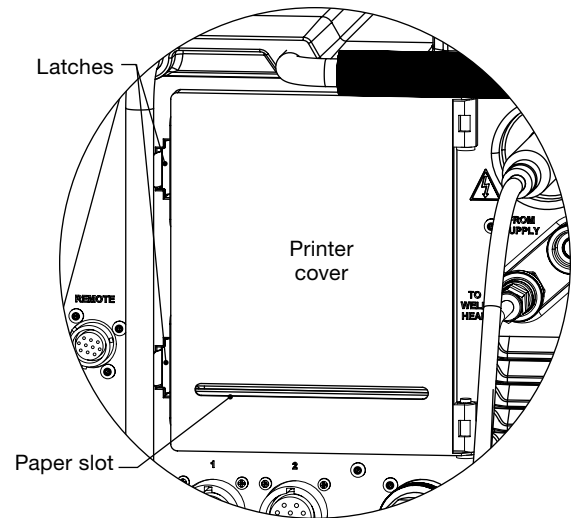

Fig. 50—Opening the Printer Cover
1. Press the **latches** and pull open the **printer cover** (Fig. 50).